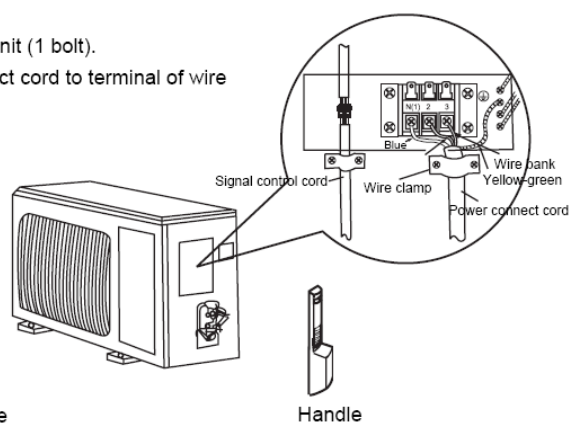

Fig.11-9
- Ensure if wire had been fixed well (Fig.11-9).